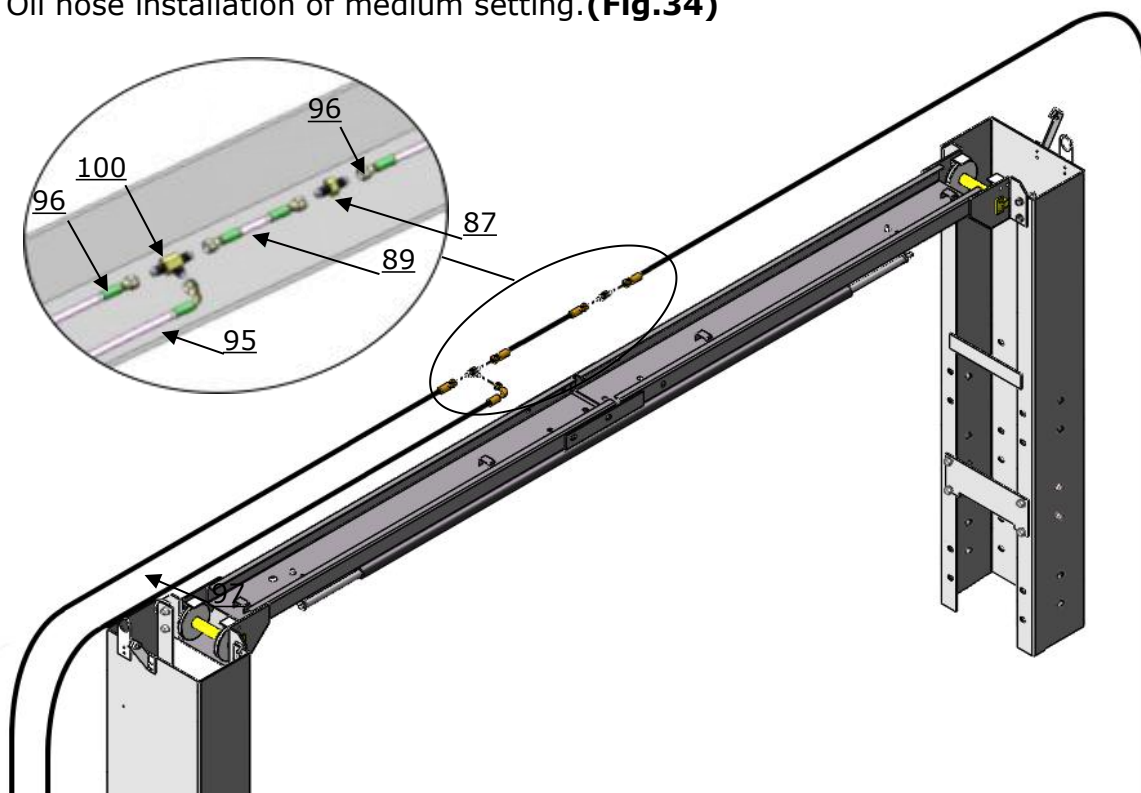

Fig.34
2. Oil hose installation of medium setting. **(Fig.34)**